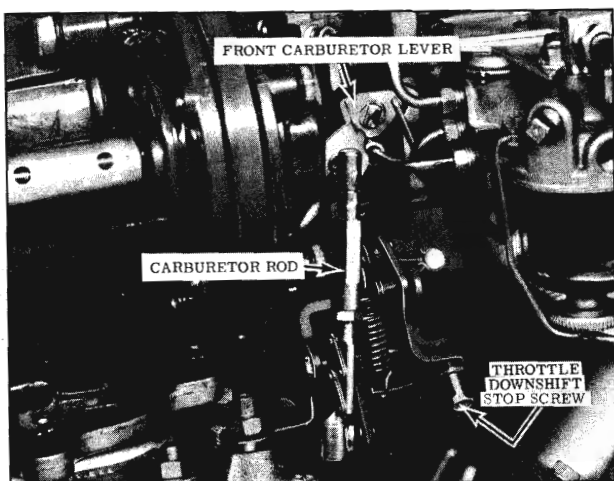
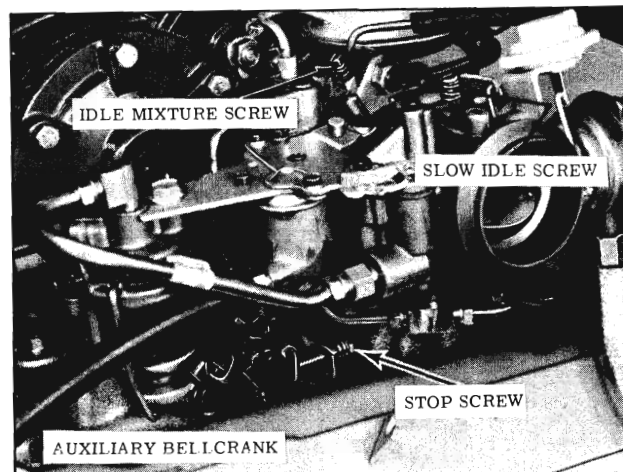

Fig. 3-330 Carburetor Rod
Fig. 3-332 Bellcrank Stop Screw
5. Remove air cleaner and disconnect upper end of the carburetor rod. (Fig. 3-330)
7. Back out the auxiliary bellcrank stop screw until the bellcrank contacts the stop. (Fig. 3-332)
8. Loosen the carburetor rod lock nut and shorten the rod. (Fig. 3-330) Connect the upper end of carburetor rod to the front carburetor lever.
9. While holding the throttle valve at closed bore with the rear carburetor lever, lengthen the carburetor rod until the links close and a slight load is felt on the threads. Then shorten rod one (1) turn and tighten the lock nut.
12. Adjust the auxiliary bellcrank stop screw until it just affects the slow idle and then back it out one turn. (Fig. 3-332)